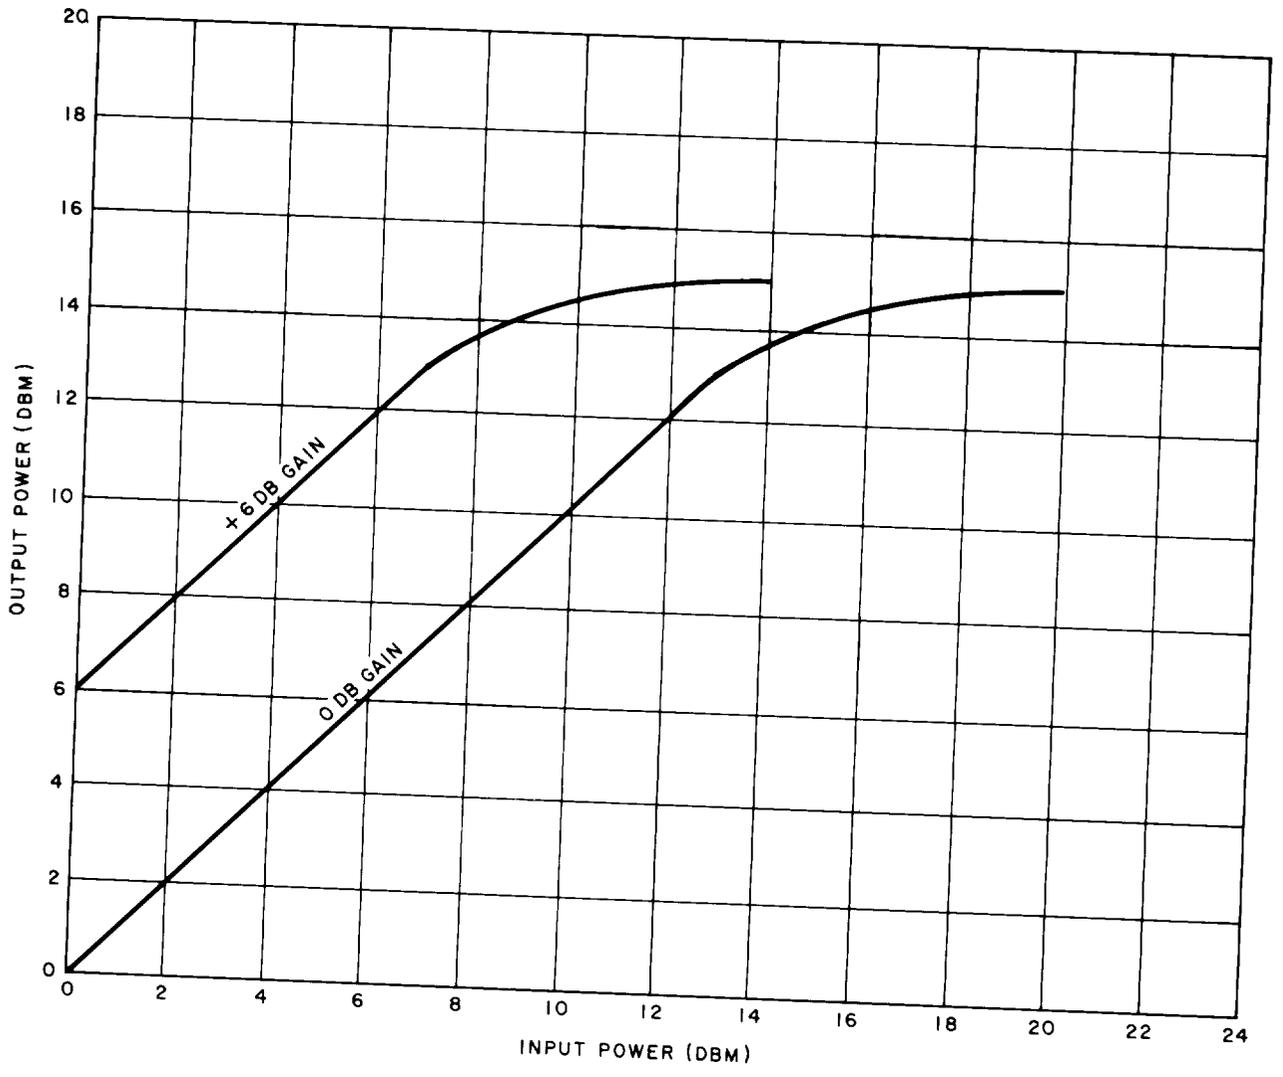

Fig. 12—Output Power Capability of the J99343PD
4.05 Figure 12 shows the output power capability of the 2-2 intermediate (NL-NL) repeaters. The output power is determined by input power and repeater gain, as shown by the +6DB gain line in the figure. Power limiting occurs in this unit at about 13.5 dBm.